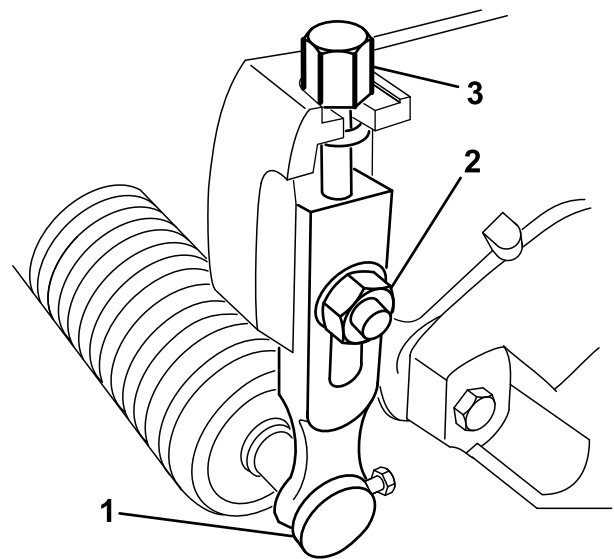

Figure 9
1. Loosen the locknuts securing the height-of-cut arms to the cutting-unit side plates (Figure 9).